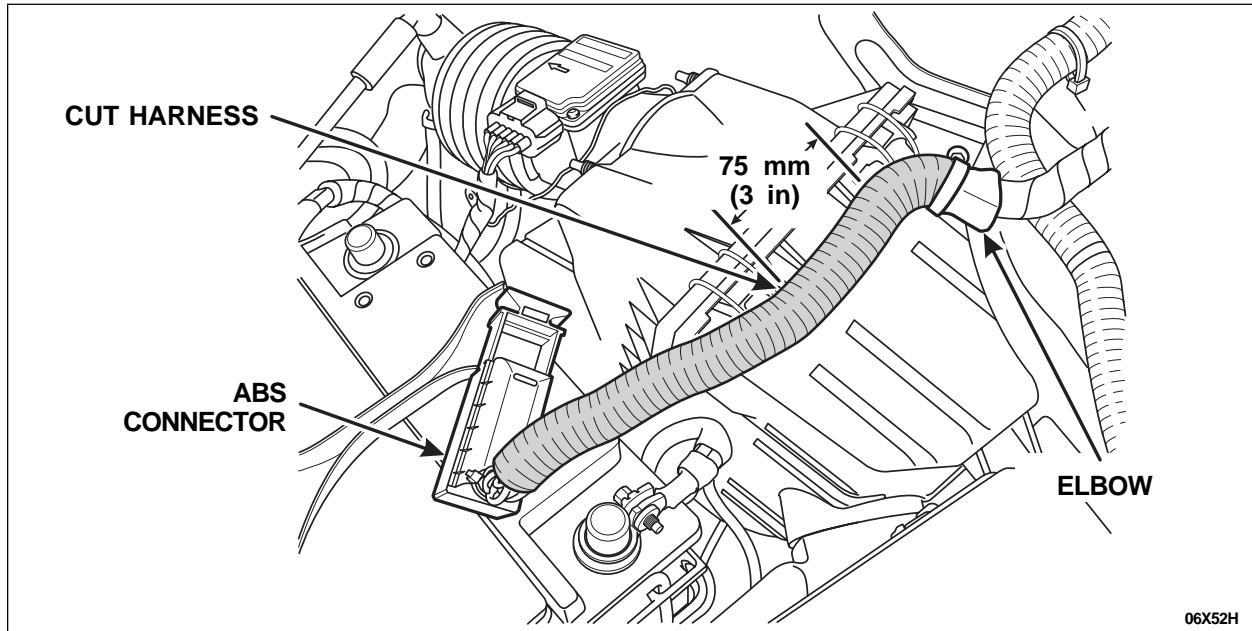

FIGURE 17
1. Remove the tape and the convolute from the vehicle harness which leads up to the ABS module connector. See Figure 17.
2. Measure approximately 75 mm (3 in) from the end of the elbow towards the ABS module connector, then, using suitable wire cutters, cut the harness (all wires) to the same length. See Figure 17.